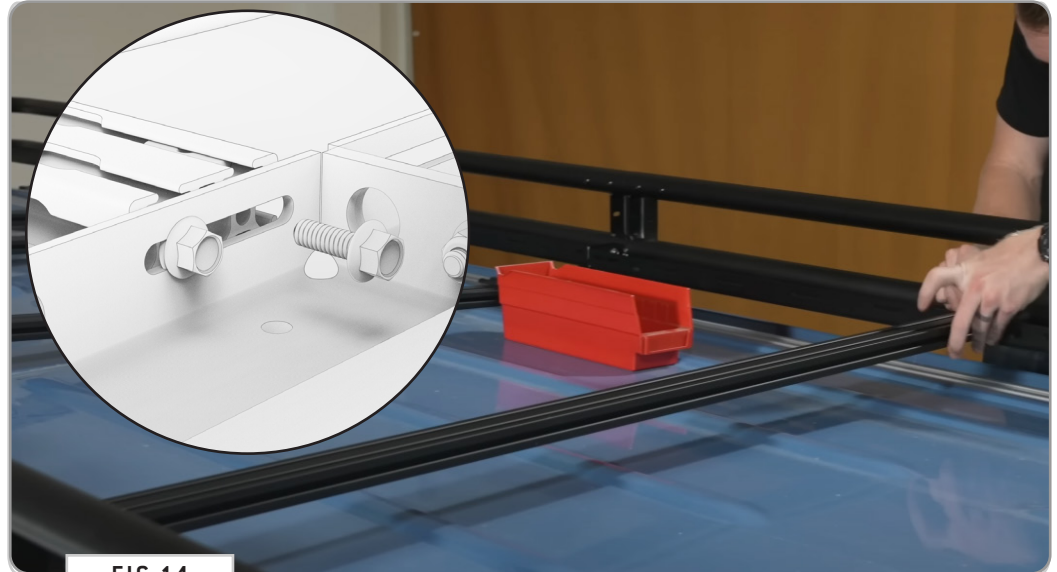
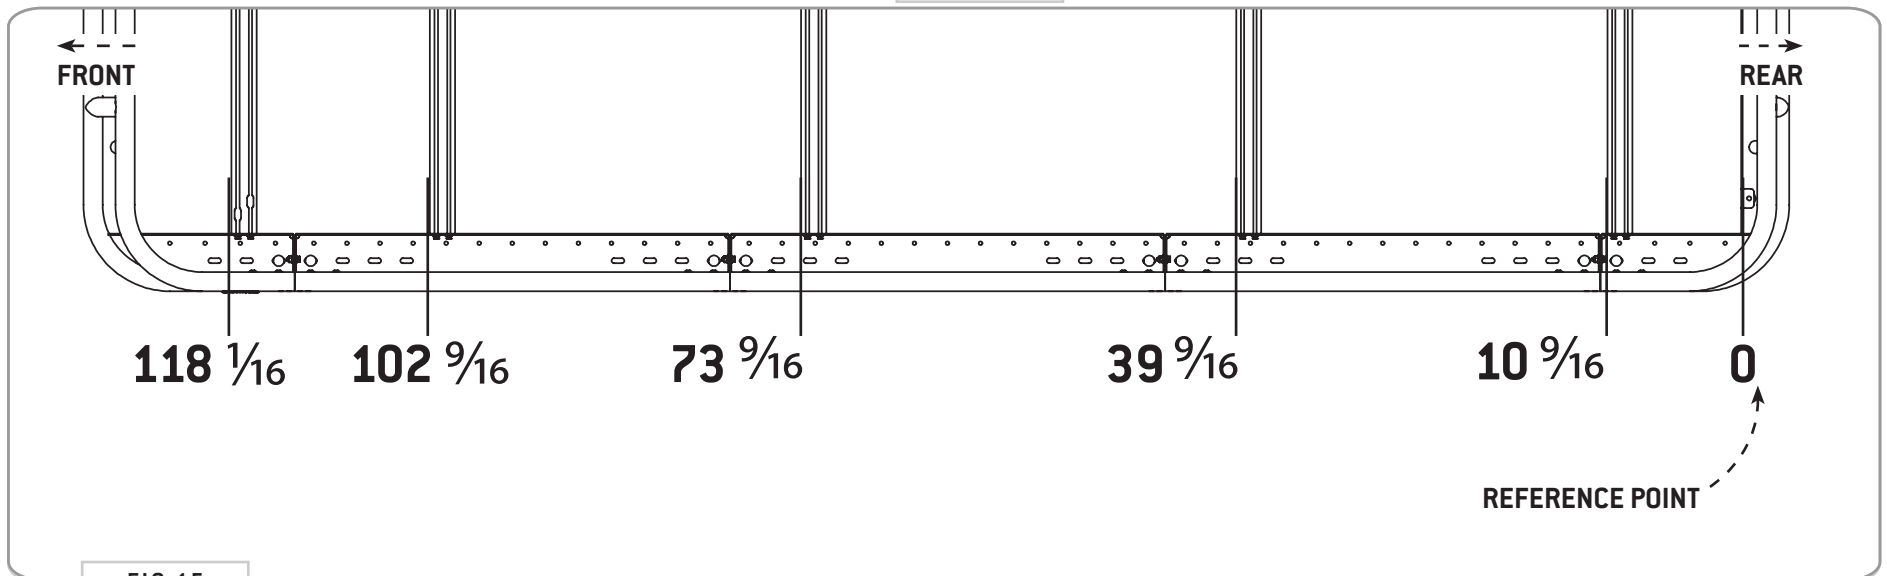

FIG 14
FIG 15
**6.1 Attach Crossbars:** Using (4ea) 1/4-20 Flanged Hex Bolts with Loctite (FIG 14), attach Crossbars to the rack in the locations shown in FIG 15. Be sure to measure both sides to ensure that the crossbars are square.